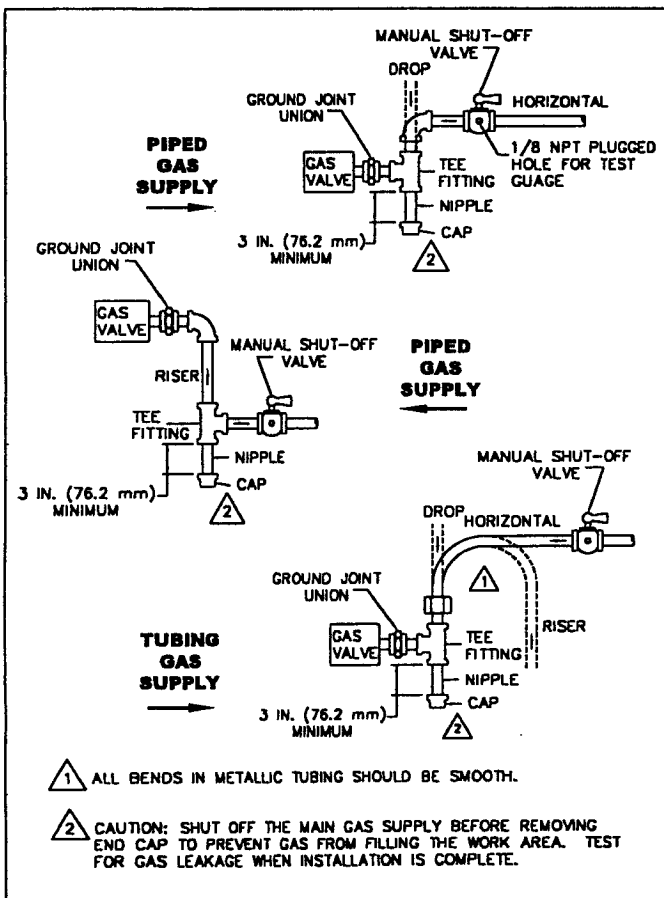

Fig. 2
- D. A dripleg Fig. 2 should be installed to constitute a trap to catch any condensate that may be in the gas. The dripleg should be readily accessible for cleaning.